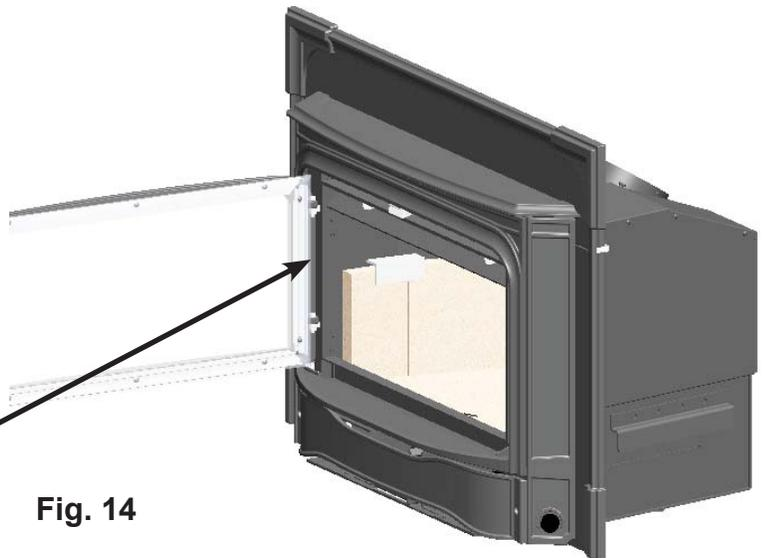

Fig. 14
2. Hold bottom nuts using a 9/16" wrench. Use a 1/4" Allen head screwdriver to back nuts off the bolts. **(Fig. 14)**